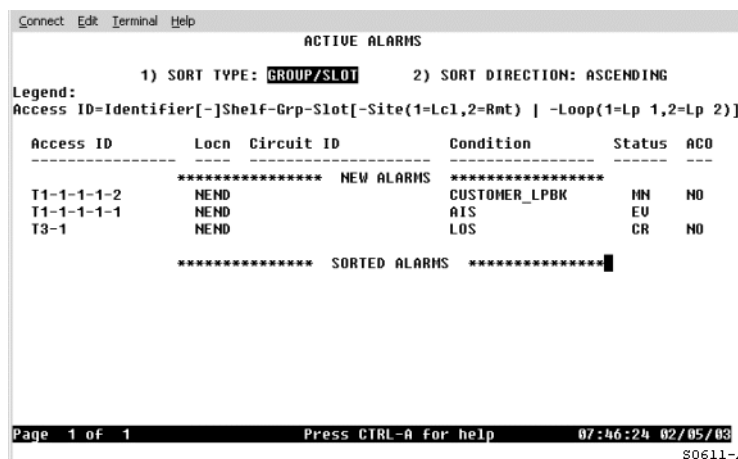

Figure 17. Active Alarms Screen
- 3 Select **1. Display Active Alarms**. The Active Alarms screen displays (Figure 17).